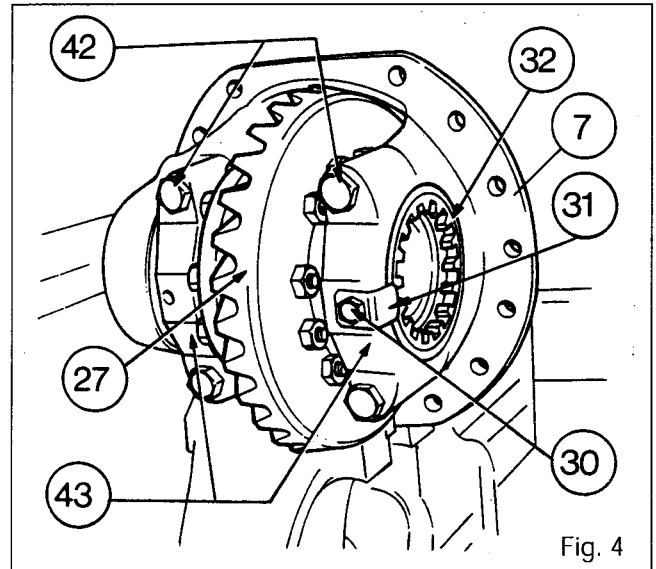
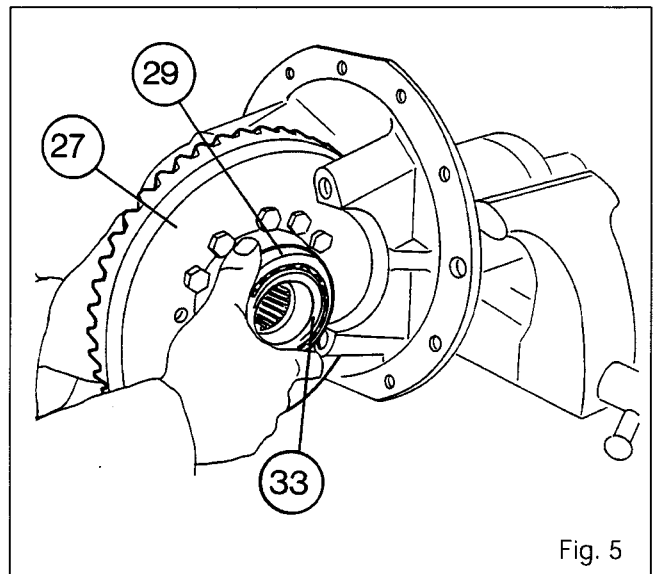
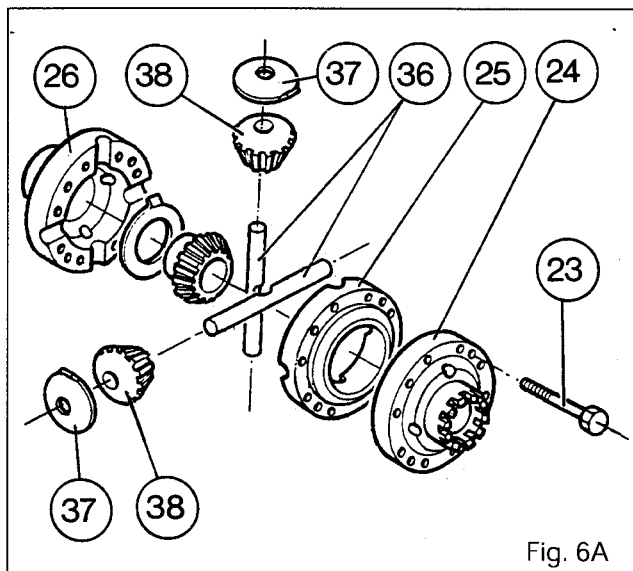
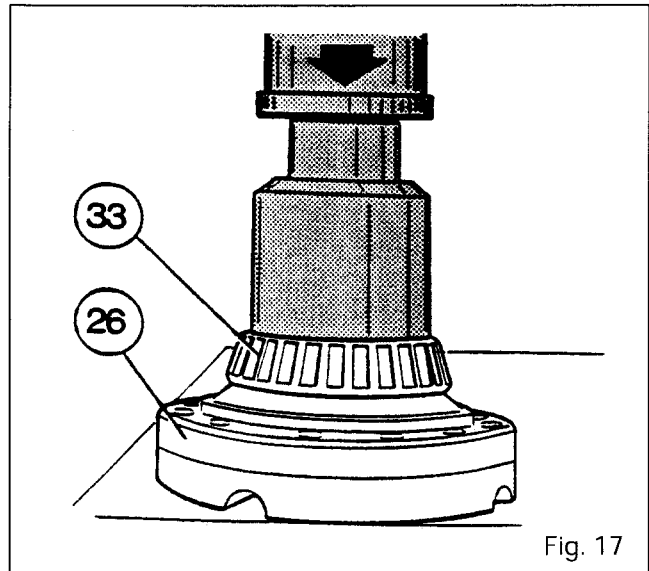

Fig. 4
Fig. 5
Fig. 6A
Fig. 17
11. Place the housing (7) in a soft-jawed vice (Fig. 4).
12. Remove the bolt (30) and its retainer (31) (Fig. 4).
13. Remove the splined nut (32) using the special locally-manufactured wrench (see Section M).
14. Remove the four bolts (42), and remove the half bearings (43) (Fig. 4).
**Note: Carefully remove the half bearing on the lock control side, with spring (17) compressed; the washer (21) must remain in the housing (7).**
15. Remove the complete differential assembly with the bearing cones (33) and cups (29) (Fig. 5). Separate the cups from the cones. Remove the shim or shims (22).
16. If necessary, extract the two bearing cones (33).
17. Place the differential assembly in a soft-jawed vice. Remove the nuts (28). Take out the bolts (23).
**Note: Before disassembling, mark the position of the half housings (25) and (26) and of the cover (24) so they can be correctly paired when refitting.**
18. Separate the half housings (25), (26) and the cover (24).
19. Remove the sun gear (11) and washer (35).
20. Separate the pin or pins (36), the planetary pinions (38) and the spherical washers (37):
- Fig. 6A: AG 155,
56. Remove the friction washer (16) on the mobile dog tooth coupler (18), and then fit the assembly in the piston (14). Fit the tab washer (12) and position the retaining ring (13) in the groove on the coupler.
57. In the housing without seals, install the piston (14) with the coupler (18).
**Note: The dowel (34) is force-fitted in the piston. Check that the piston and the dowel slide freely in the housing. When this check has been carried out, remove the piston with the coupler.**
58. Fit new O-rings (15) and (19). Position the piston with the coupler and then insert it by striking it around the edge with a plastic mallet.
59. Position the spring (17) and the washer (20), with the shoulder of the washer facing the spring. Tighten the assembly using tool MF471 until the washer (21) slides freely in the groove on the housing.
61. If the bearing cone (33) was removed, fit it on the half housing (26) using a press or a suitable fixture (Fig. 17).
62. Fit the other bearing cone (33) on the cover (24), if it was removed.
63. Assemble the half housing (25) in the cover (24) (with the coupler teeth) in accordance with the markings made before disassembly.
64. Position the washer (35) on the sun gear (11), and place the assembly in the half housing (25), engaging the tab on the washer in one of the holes in the half housing.
65. Place the planetary pinions (38) (2 or 4 of them according to the category) and the washers (37) on the pin or pins (36). Then position the assemblies in the half housing (25), engaging the tabs on the washers (37) in the holes in the half housing (25) (Fig. 6A or 6B).
66. Place the other washer (35) on the other sun gear (11). Fit the assembly in the half housing (26), making sure that the tab of washer (35) is correctly positioned.
67. Position the half housing assembly (26) on half housing (25), in accordance with the assembly position marked before disassembling.